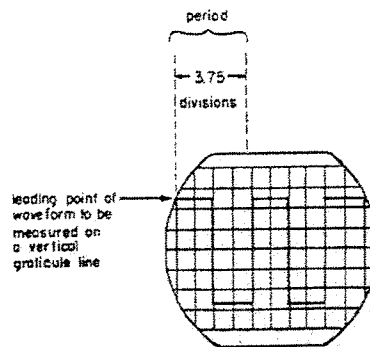

Fig. 7 Square wave period measurement
3. Move the H. POSITION control until the front part of the waveform section to be measured is on a vertical graticule line. (see Fig. 7)
For example, the period of the pulse in Fig. 7 is 3.75 divisions. If the TIME/DIV Selector is in the 1mS/DIV then the period is 3.75 divisions x 1mS/DIV=3.75mS.